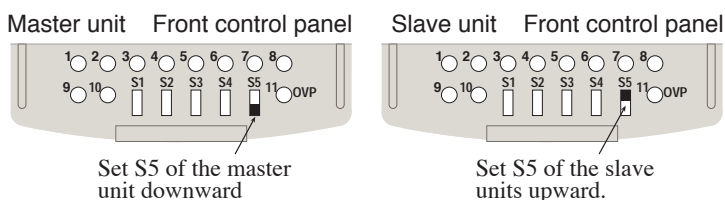

Fig.4-15 Control switch presetting for master-slave-control parallel operation
5. Set the control switch S5 of the master unit and slave units to the positions shown in Fig.4-15.